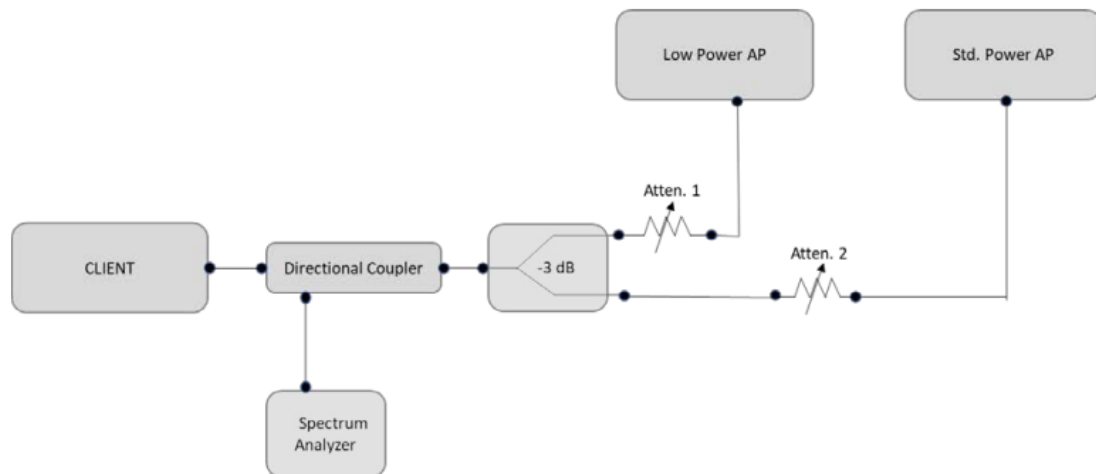

Figure 6. Test setup for conducted testing
1. Connect equipment as shown in Figure 6 below..